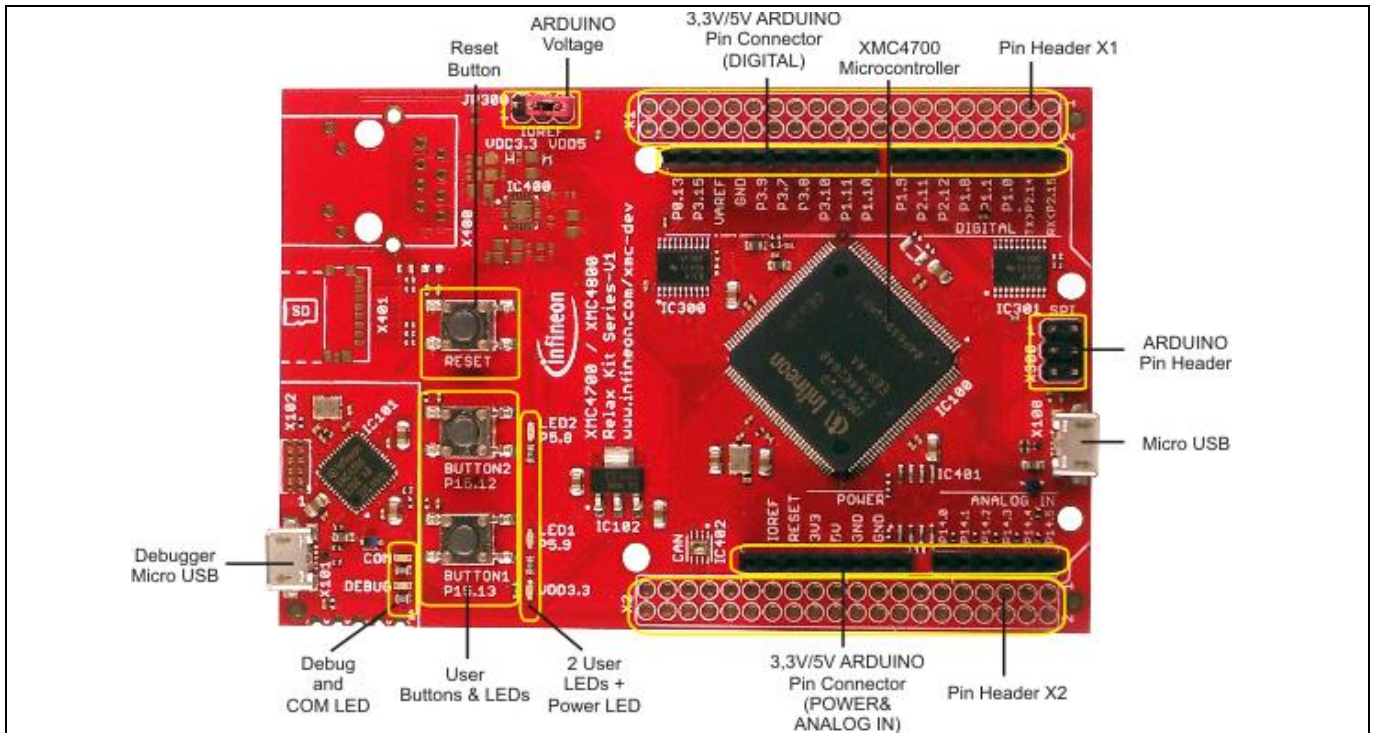

Figure 3 XMC4700 Relax Kit
2. Power up the kit by connecting Micro USB cable between PC and Debugger micro USB. For placement of Debugger micro USB refer Figure 3.